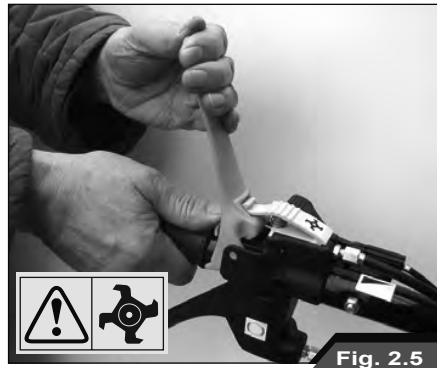

Fig. 2.5
- The blade rotor clutch Lever has to be operated with two hands. Undo the safety lock of the blade rotor clutch Lever as illustrated (Fig. 2.5).